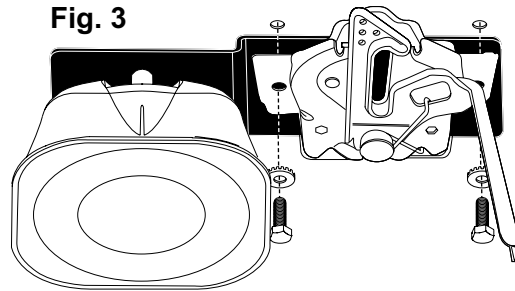

Fig. 3
4. The bracket mounts behind the hood latch assembly using the hood latch's mounting hardware (Fig. 3).